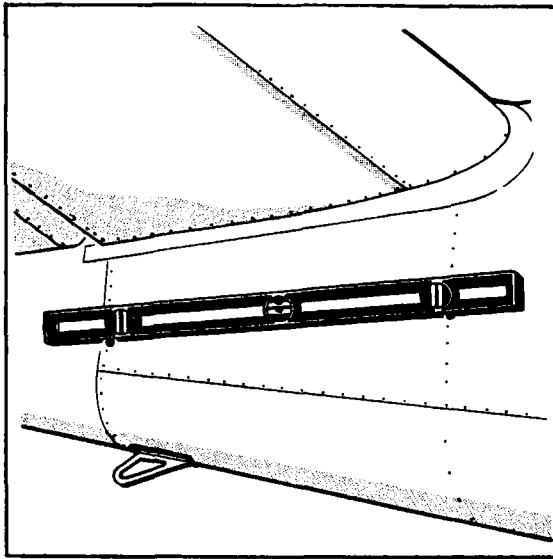

Figure 2-9. Longitudinal Leveling
1. Partially withdraw the two leveling screws located on the right side of the fuselage beneath the horizontal stabilizer as shown in Figure 2-9.